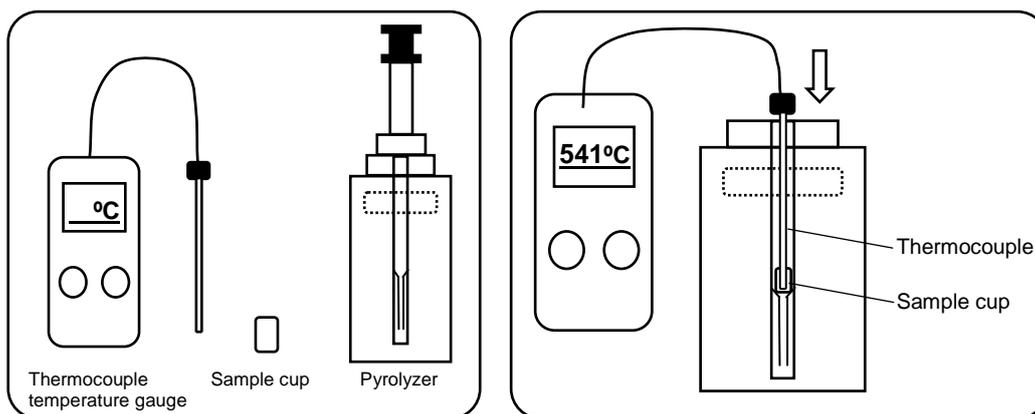

Fig. 4.23 Measurement of actual temperature using thermocouple
- (1) Enter the actual temperature measured in A2, using a reliable thermometer of your choice.
- (2) Click the “Save” button to finish the temperature calibration.
- (3) Make sure that the temperature displayed matches the actual temperature measured as Fig.4.23. If not, repeat the operations (1) through (3) described above.
- (4) The interface temperature calibration can be done in a similar manner by entering the actual value measured in B.